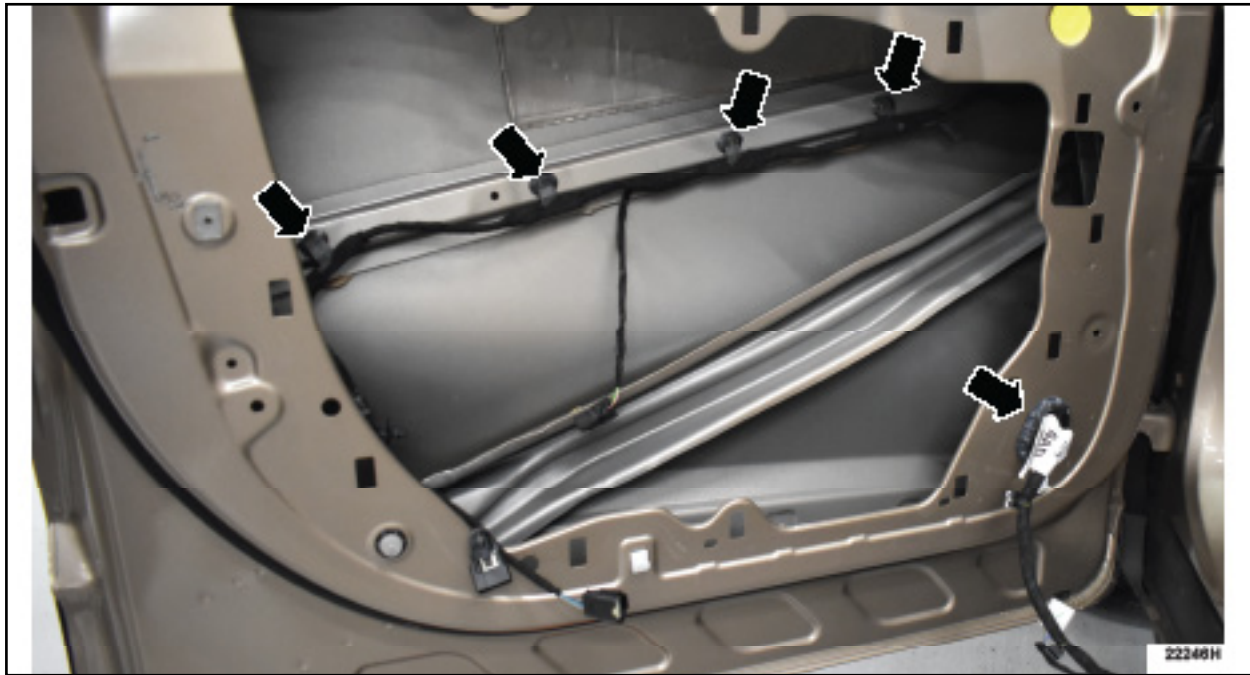

FIGURE 2
- Release the wiring harness retaining clips from the interior of the door. See Figure 2.